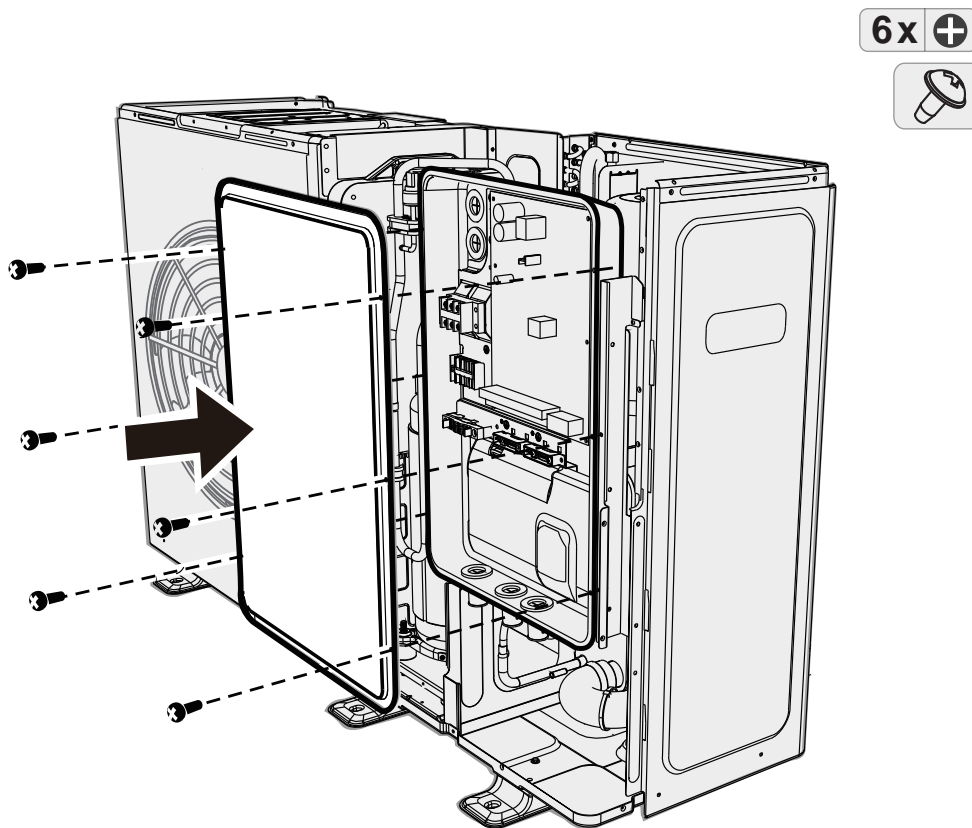

Figure 53. HP290 Monobloc (Access to Outdoor Control PCB)
2. Gain access to the HP290 Monobloc Outdoor Control PCB (see Figure 53). Remove and keep the Control Box cover retaining screws and remove the cover.